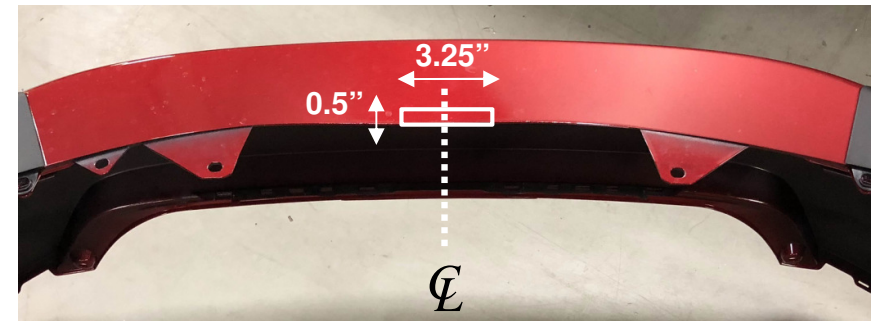

Figure 3
- (Optional) Trim bumper fascia** – If hitch does push up on bottom of bumper fascia, the fascia can be trimmed as shown in **Figure 3**.
5. (Optional) Trim bumper fascia – If hitch does push up on bottom of bumper fascia, the fascia can be trimmed as shown in **Figure 3**.